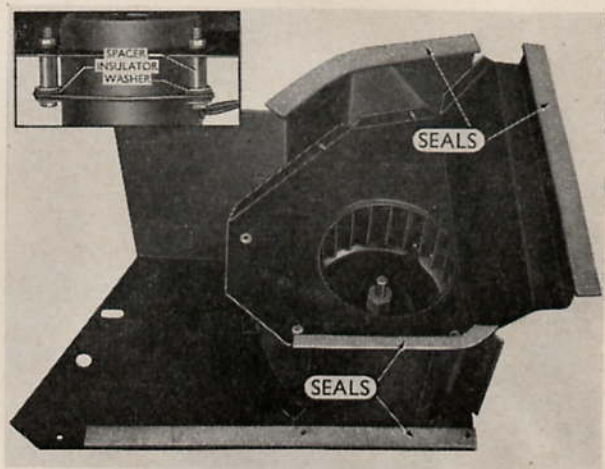

Fig. X.4. View showing location of seals on motor covers. Inset shows details of motor attachment
1. Assemble the motor attaching bolts, spacers and washers as shown in Fig. X-4.
3. Check the seals along the flanges of the motor covers. If new seals are required, install as shown in Fig. X.4 and secure with a rubber adhesive.